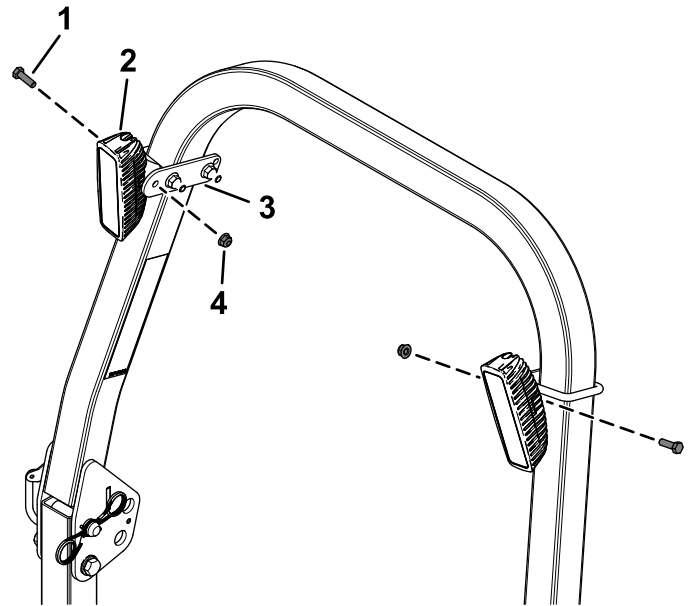

Figure 8
3. Secure the 2 LED lights to the 2 light-mount plates using the 2 hex-head screw (5/16 x 1 inch) and 2 locknuts (5/16 inch) as shown in Figure 8.